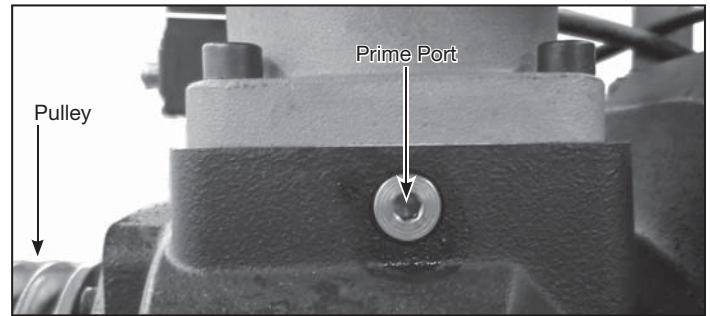

Figure 9 - Air End Priming Location
- b. With the compressor system stopped, add approximately 8 ounces of oil (same oil type as in the air end) into the rotor chamber (see Figure 9).